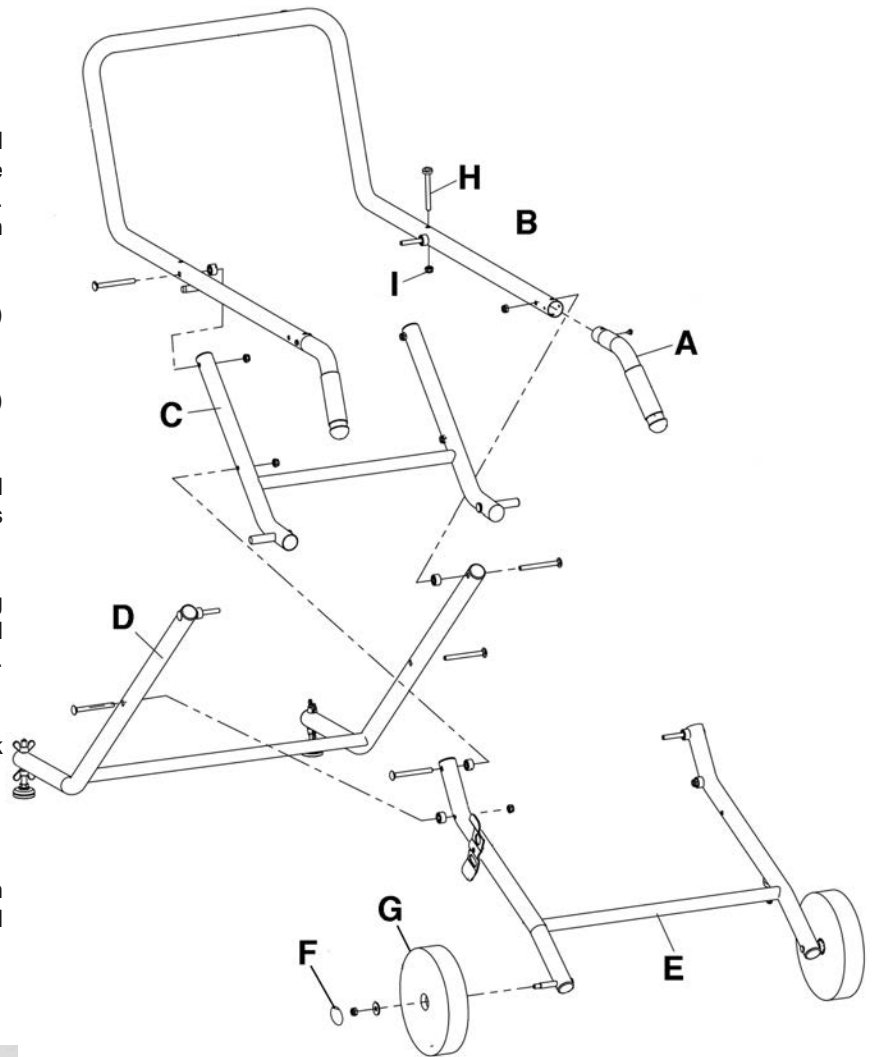

FIGURE 4
1. Insert both handles (A) Fig.4 into the large U-shaped bracket (B), make sure the screw hole in each handle matches with the screw hole on the U-shaped bracket. Align screw holes and secure handles using a small pan head screw.
2. Mount middle bracket (C) Fig.4 to U-shaped bracket (B) using carriage bolts, plastic spacers and nylon hex. nuts.
3. Mount foot bracket (D) Fig.4 to U-shaped bracket (B) using carriage bolts, plastic spacers and nylon hex. nuts.
4. Mount wheel bracket (E) Fig.4 to foot bracket (D) and middle bracket (C) using carriage bolts, plastic spacers and nylon hex. nuts.
5. Remove the wheel cap (F) Fig.4 and remove mounting hardware inside wheel. Mount the 8" wheels (G) to wheel bracket (E) using large washers and nylon hex. nuts. Install wheel caps (F) once wheels are installed.
1. Position the jobsite saw on top of the stand (choose which orientation best suits you). Use 4 cap screws (H) and nylon hex. nuts (I) Fig.4 to secure jobsite saw to stand.